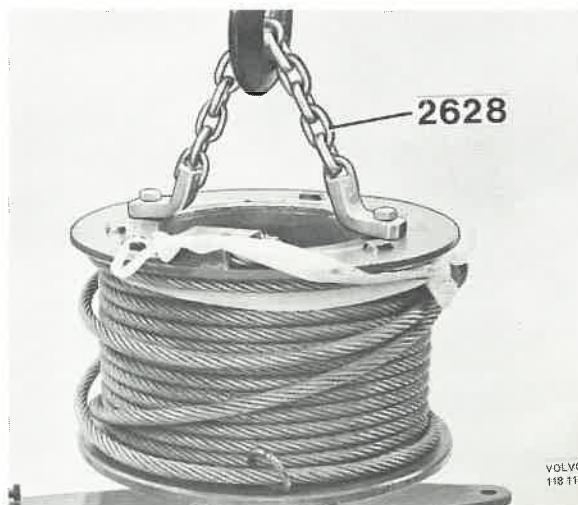

Fig. 92-50. Removing the drum
9. Remove 6143 and fit 2628 and lift out the unit, see Fig. 92-50.